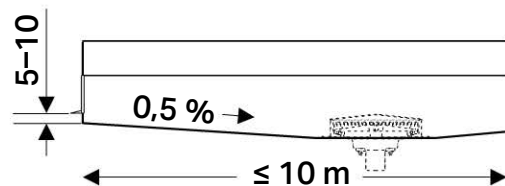

Figure 57: Emergency overflow with gutter, on the front side – overflow edge and distance from next roof outlet
- For box gutters with emergency overflows on the face of the gutter (Fig. 57 on page 31)